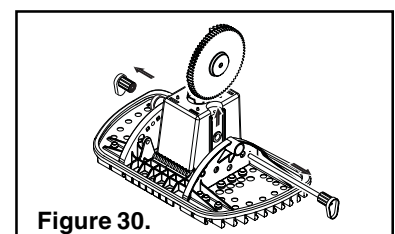

Figure 30.
6. Remove the Shaft Plug with the stainless steel shaft and the Large Steering Drive Assembly, (see Figure 30).